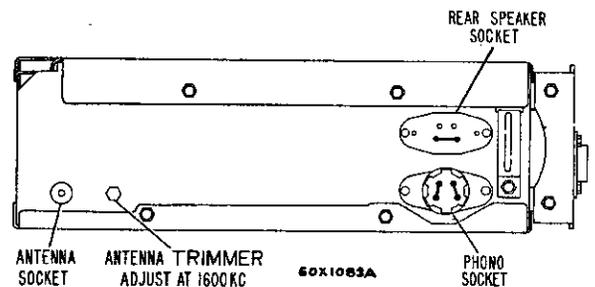

Fig. 3—Antenna Trimmer
CAUTION: Do not operate the radio with the speaker detached; since damage to the transistors may result. If the rear seat speaker is disconnected from the radio, insert a jumper wire to the rear seat speaker socket (Fig. 3) to allow the receiver to operate.
4. ANTENNA TRIMMER ADJUSTMENT (Fig. 3)